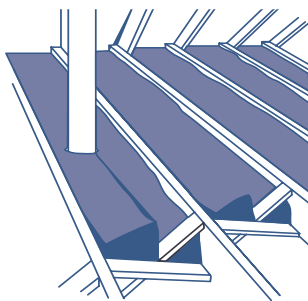

Figure 10: Install insulation snugly around cross braces and protruding objects that don't produce heat.
- Lay insulation in long runs first, using leftover pieces for shorter spaces. Cut ends of batts or blankets to fit snugly around cross bracing and around plumbing stacks (Figure 10).